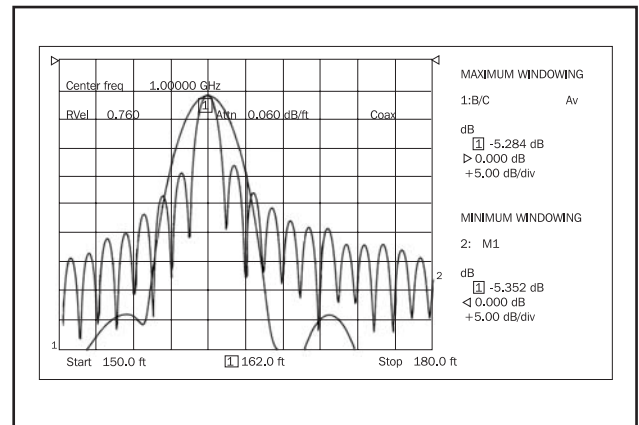

Figure 9 - Use of windowing to minimise sidelobes.
b) Select windowing to clarify displays: as a consequence of the processing involved in fault location the discontinuity appears on the display as a peak with no associated ripple. Figure 9 demonstrates this effect. With minimum windowing there is a substantial ripple which may obscure an adjacent fault of smaller magnitude. The ripple may be reduced by applying windowing. The other trace shows the same measurement with maximum windowing applied. This has all but eliminated the ripple but does have the undesirable side-effect of broadening the peak. Generally speaking, medium windowing is best for most applications.